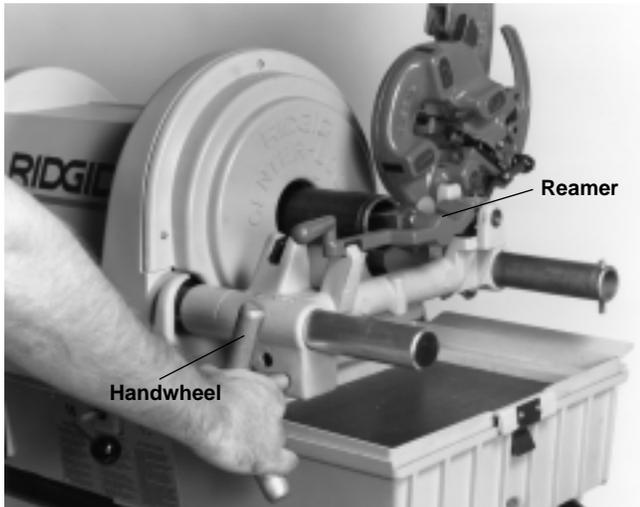

Figure 9 – Reaming with 344 Reamer
3. Position reamer into pipe and complete reaming by exerting slight pressure on handwheel (Figure 9).